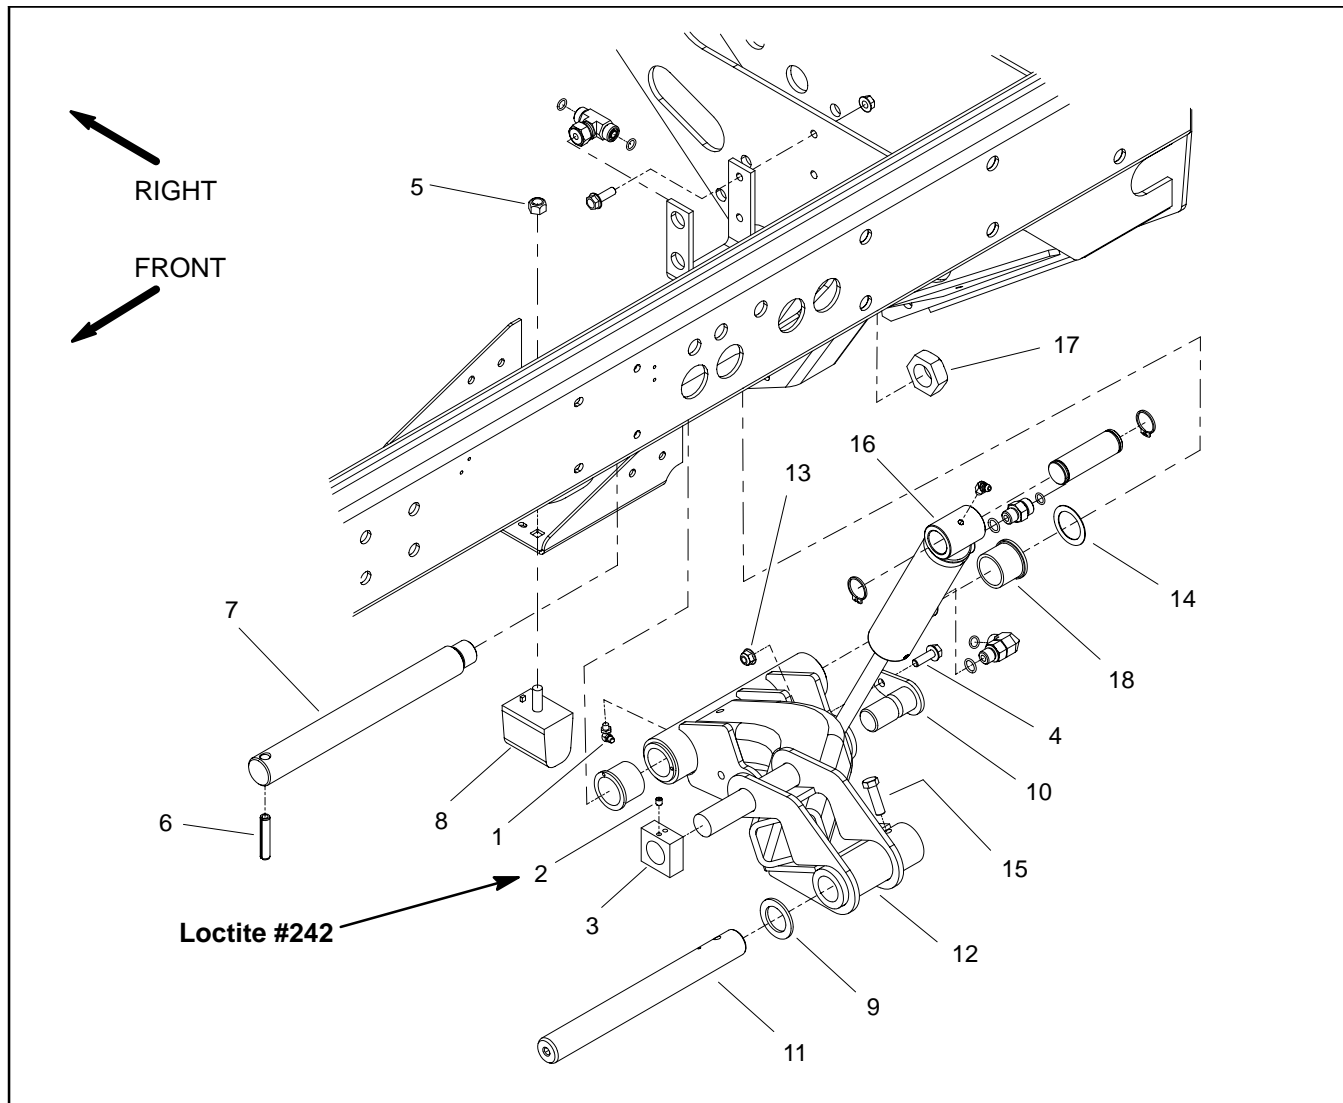

Figure 10
Removal (Fig. 10)
3. Remove lift cylinder pin (item 10) that secures lift cylinder to lift arm.
4. Loosen and remove lock nut (item 17) from pivot pin.
5. Support lift arm and pull lift arm pivot pin from lift arm and frame. Locate and remove thrust washer (item 14) from rear of lift arm during pivot pin removal.
7. Disassemble lift arm as needed using Figure 10 as a guide.
Installation (Fig. 10)
2. Position lift arm to frame (Fig. 10). Fit thrust washer (item 14) between rear of lift arm and frame. Slide pivot pin into frame and lift arm. Align roll pin in pivot pin with slot in frame flange.
3. Install and tighten lock nut (item 17) to secure lift arm pivot pin.
4. Secure lift cylinder to lift arm with cylinder pin (item 10). Secure cylinder pin to lift arm with flange head screw and flange nut.